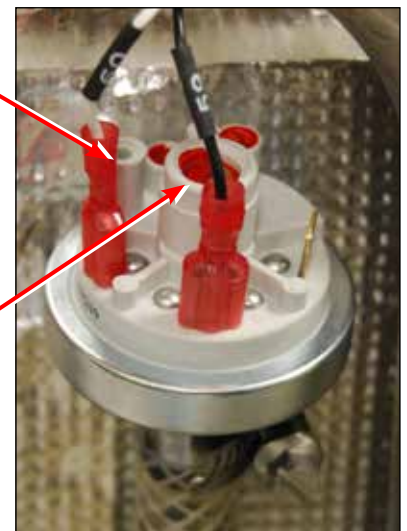

Figure 38b
2. Reconnect wiring. (Figure 38b)